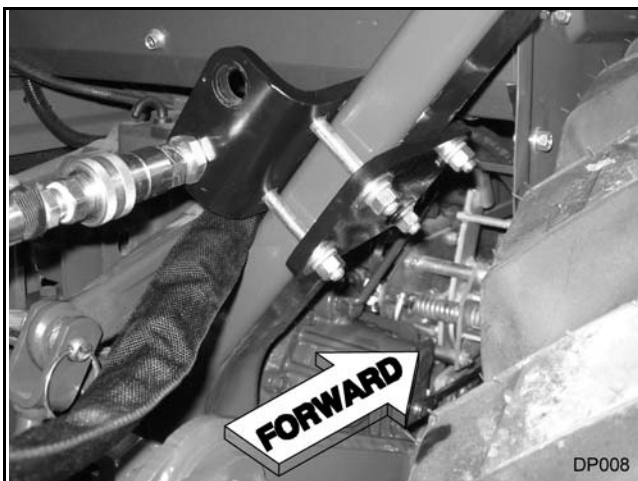

Figure 8. Bulkhead Adapter Bracket Installed
1. Attach bulkhead adapter bracket (9) and back plate (10) to the right ROPS frame using four cap screws (11), eight flat washers (14), lock washers (12), and hex nuts (13). Position bracket approximately 1 inch below the serial tag on the ROPS. Place bulkhead adapter bracket on the outside of ROPS. See Figure 8.
2. Install bulkhead adapters (1) to the bulkhead adapter bracket (9). Secure using nut supplied with bulkhead adapter.
3. Attach female quick coupler (3) to the top bulkhead adapter.